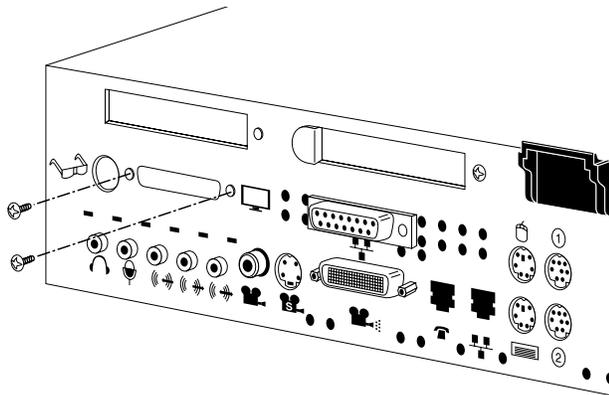

Figure 2-8 Removing the Exterior Screws For the Z Board
5. On the rear of the workstation, remove the two screws that secure the Z board to the chassis, as shown in Figure 2-8.